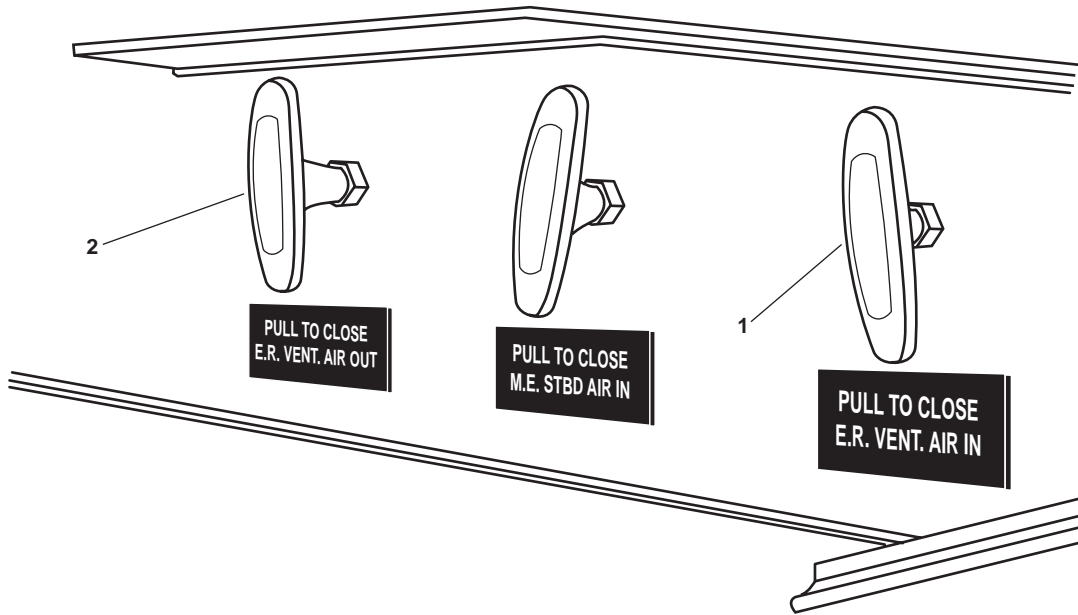

Figure 4. STBD Engine Room Fire Flap Quick Release T Handles
- c. STBD engine room supply fan intake damper (figure 4, item 1)
- d. STBD engine room exhaust fan outlet damper (figure 4, item 2)